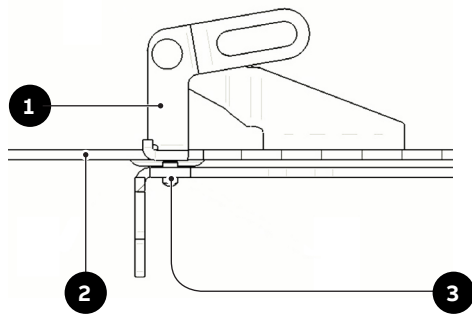

Fig. 11
closed circuit breaker. The slide locking device (1) (fig. 11) on the circuit breaker (optional accessory for fixed circuit breakers) can be used for this purpose: if the VM1 circuit-breaker is closed, the slide locking device is outside the base plate (2) (fig. 11).
Figure 11 shows the pawl (3) on the ABB withdrawable truck. If the circuit breaker is closed, the pawl (3) cannot be turned anticlockwise. This prevents movement of the withdrawable truck and therefore movement of the circuit breaker.